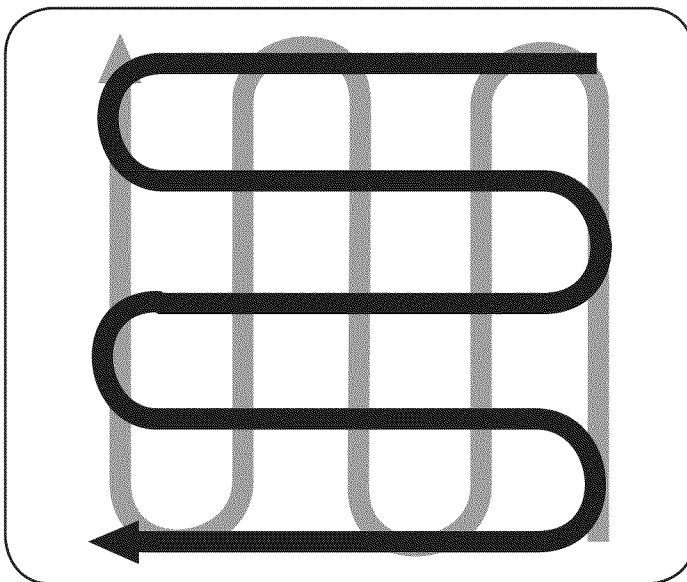

Figure 14
- When finished in one direction, make a second pass at a right angle, See Figure 14. Overlap each pass for the best results (in very hard ground, it may take three or four passes to thoroughly pulverize the soil.)